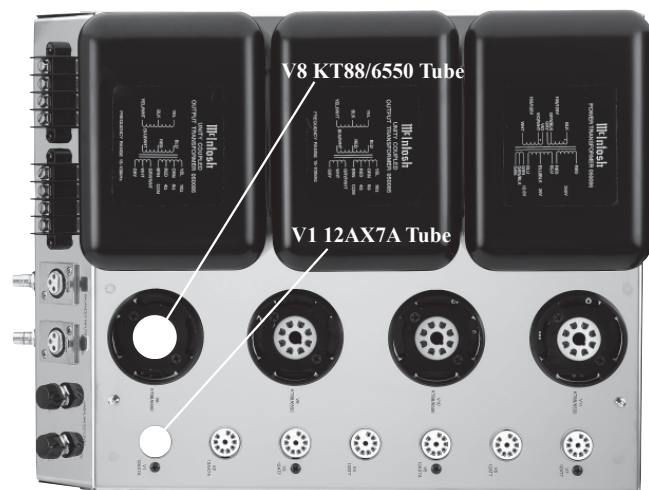

Figure 4
The MC275 Chassis has nomenclature screened on it to specify both the circuit location and Tube Type for each channel. Refer to figure 4.
2. On the top left side of the amplifier, locate the Tube Socket that has the nomenclature V1 12AX7A next to it on the chassis. Refer to figure 4 and 5.
Insert the spade lug connector or prepared section of the cable end under the terminal strip screw and tighten the screw until the cable is firmly clamped into the terminal strip so the wires cannot slip out. Refer to figures 4, 5 & 6.